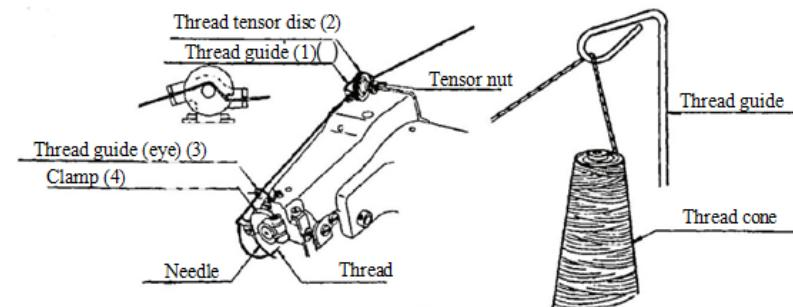
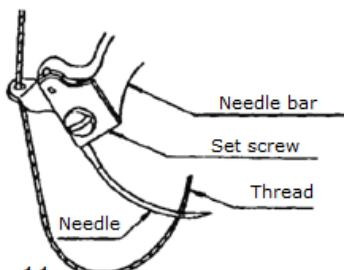

Fig. 9
Fig. 11
C. In order to sew correctly on the machine, the thread should be run exactly as shown on Figure 9.
If you are using a thread tensioner, first you must thread the thread through the rear eye of the thread guide (1). Then lead the thread between the two tensioner discs (2), as per Figure 9. Thread the thread from the back of the front eye of the thread guide. Lead thread to the front of the machine, lead it from the top to the thread guide (3) and eye (4). Then make sure that the needle is at the extreme left position. Thread the thread from the bottom, through the needle's eye, as shown on Figure 11.